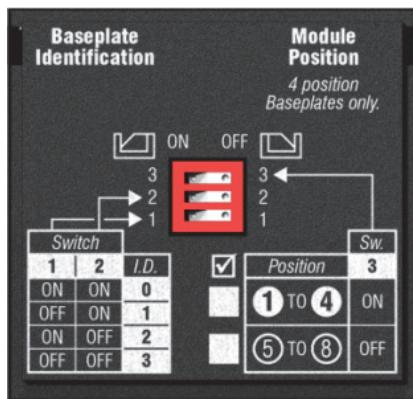

Figure 3. Modular Baseplate ID Switches (For FBM Baseplates)
- ▶ The number of the baseplate in the group, as set by means of the baseplate Identification (I.D.) DIP switches on each baseplate (see Figure 3).
- ▶ The number of the baseplate in the group, as set by means of the baseplate Identification (I.D.) DIP switches on each non-FCP280 baseplate (see Figure 3). Baseplates should be assumed to have this switch unless otherwise specified below.